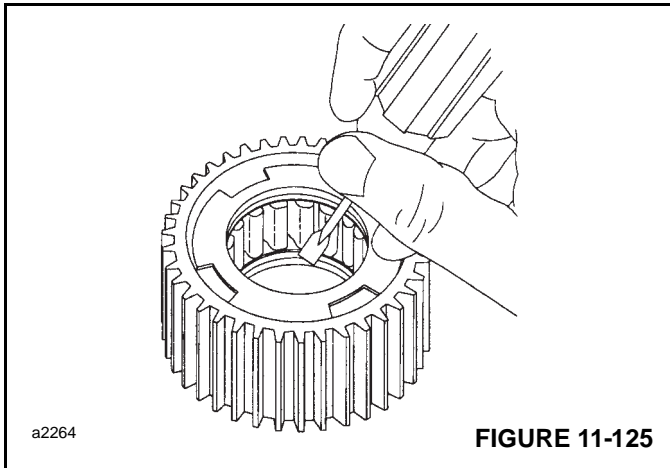

FIGURE 11-125
3. Use a screwdriver and mallet to remove the sprag bushing from one end of the outer race (Figure 11-125). There are four cutouts in the bushing for this purpose. Be careful not to damage the bushing inside surface. If the bushing's inside surface is damaged, or shows wear, replace it.